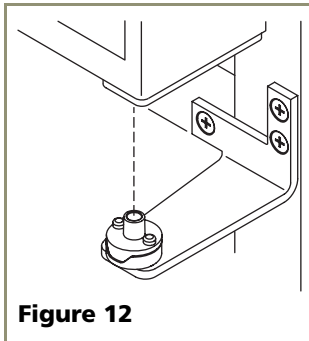

Figure 12
- Holding door upright with top of door tilted forward, place hole of door pivot plate on bottom hinge screw pin (see **Figure 12**).